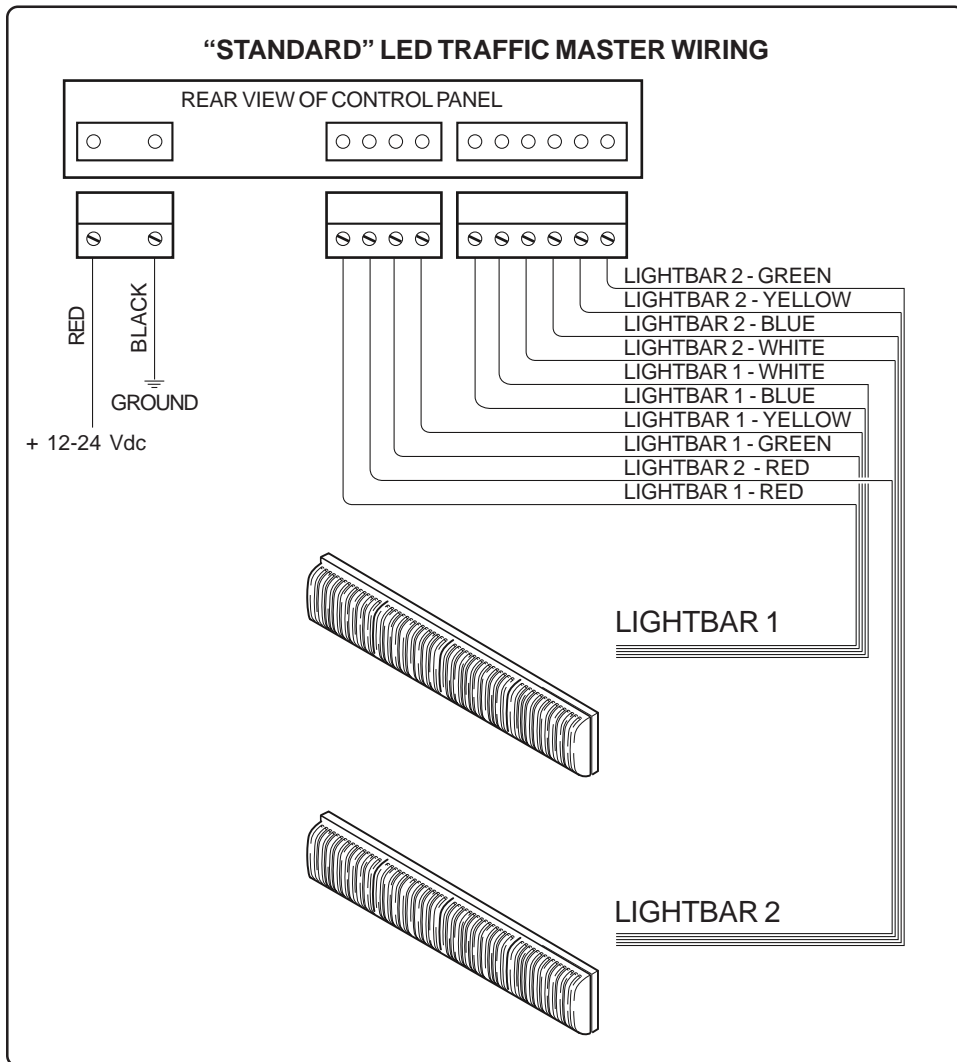

Figure 5. Standard and Optional Wiring Schematics
The Split Arrow LED Traffic Master should be mounted using the adjustable “L” brackets which are provided. Refer to page 5 for specific mounting instructions. In addition, note Figure 2, relating to mounting configurations and STANDARD or OPTIONAL wiring specification. See page 7, Figure 5 for specific wiring.
- Attach the power and ground wire to the appropriate pins in the 2 pin socket housing as shown in Figure 5.
- Attach the wires from the two 5 wire harnesses into the appropriate 6 & 4 pin connectors as shown in Figure 5. BE SURE TO PLACE THE PINS IN THE PROPER SEQUENCE!!!